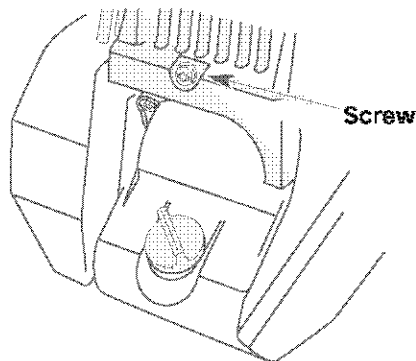

Fig. 53
- Remove the screw behind the engine cover (Fig. 53).